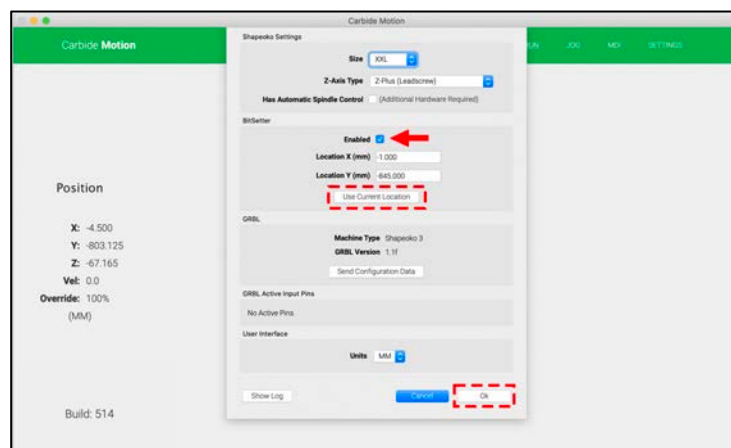

Figure 22
2. In the *BitSetter* section, select the **Enabled** checkbox. See *Fig. 22*.